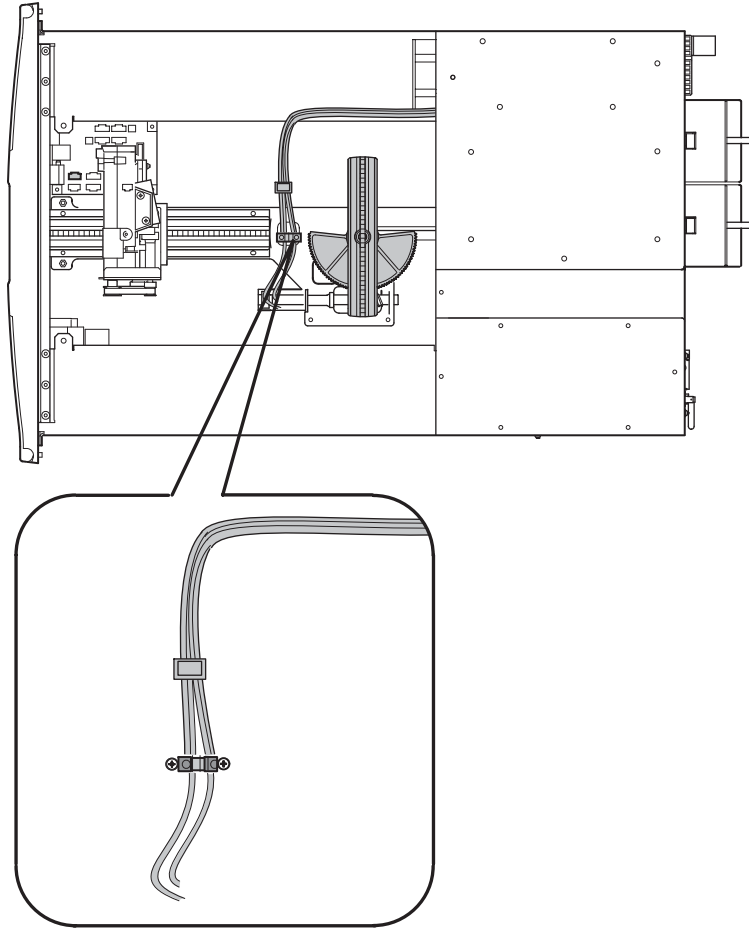

Figure 2-32: Removing the shuttle assembly track sensor
4. Remove the screw from the card cage/back plane connector access plate and lift the access plate out of the library (see Figure 2-32).
7. Operate the worm gear drive link for the rotating track section and turn it perpendicular to the stationary track (see Figure 2-32.)
12. Remove the sensor from the library (see Figure 2-32.)